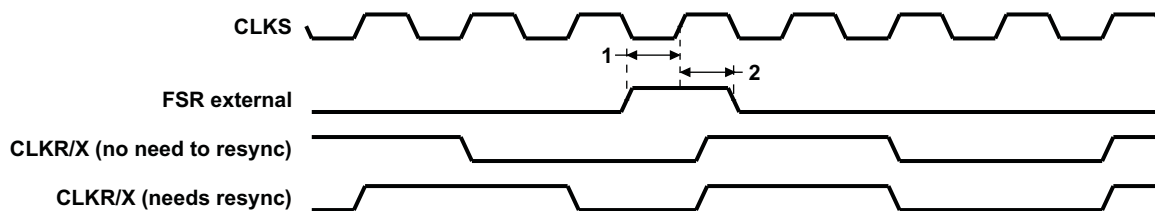

**Figure 6-32. FSR Timing When GSYNC = 1**
**Table 6-58. Timing Requirements for McBSP0 FSR When GSYNC = 1 (see Figure 6-32)**
**Table 6-59. Timing Requirements for McBSP1 FSR When GSYNC = 1 (see Figure 6-32)**